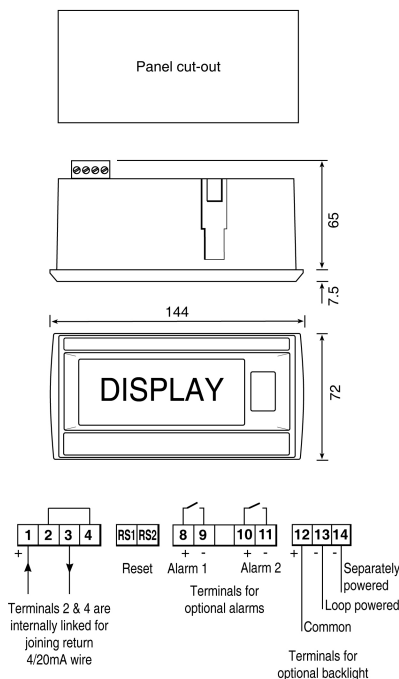

Fig 4 BA358E dimensions
Fig 4 shows the overall BA358E Rate Totaliser dimensions together with the recommended panel cut-out dimensions. To achieve an IP66 seal between the instrument enclosure and the instrument panel the smaller tolerance aperture should be used, and the Rate Totaliser should be secured with four panel mounting clamps.
- Cut the specified aperture in the panel. To achieve an IP66 seal between the instrument enclosure and the instrument panel the aperture must have the tighter tolerances specified in Fig 4.
- Connect the panel wiring to the rear terminal block(s) as shown in Figs 4. To simplify installation, the terminals are removable so that the panel wiring can be completed before the instrument is installed.